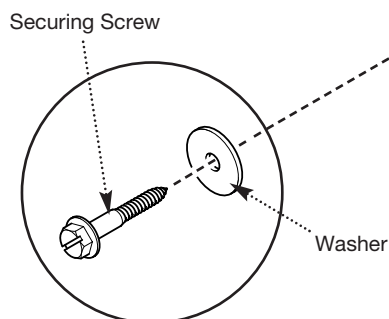

Fig. 21
3. Take the two steel washers and remaining screws. Using the previously drilled and plugged holes, secure the bottom of the boiler to the wall (Fig. 21).